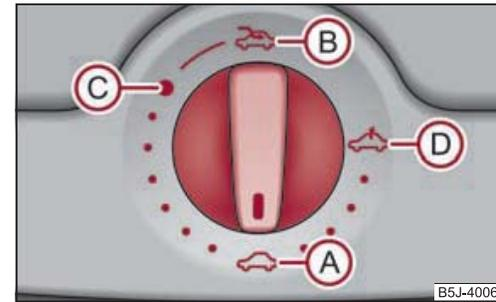

Fig. 33 Detail of the headliner: Control dial for the power sliding/tilting roof
The sliding/tilting roof is operated by means of the control dial ⇒ fig. 33 and only functions when the ignition is switched on. The control dial has several positions.
- Turn the switch to position (C) ⇒ fig. 33.
- Turn the switch to position **(A)** ⇒ page 43, fig. 33.
The sliding/tilting roof is fitted with a force limiter. If an obstacle (e.g. ice) prevents closing, the sliding/tilting roof stops and opens completely. You can close the sliding/tilting roof completely without force limiter by pressing the switch to the **(A)** position ⇒ page 43, fig. 33 at the front for as long as it takes for the sliding/tilting roof to close completely ⇒ ⚠.
It is necessary after each emergency operation (using Allen key) to move the sliding/tilting roof into the basic position. Here you have to turn the control dial forward to the switch position **(A)** ⇒ page 43, fig. 33 and press for about 10 seconds. ■